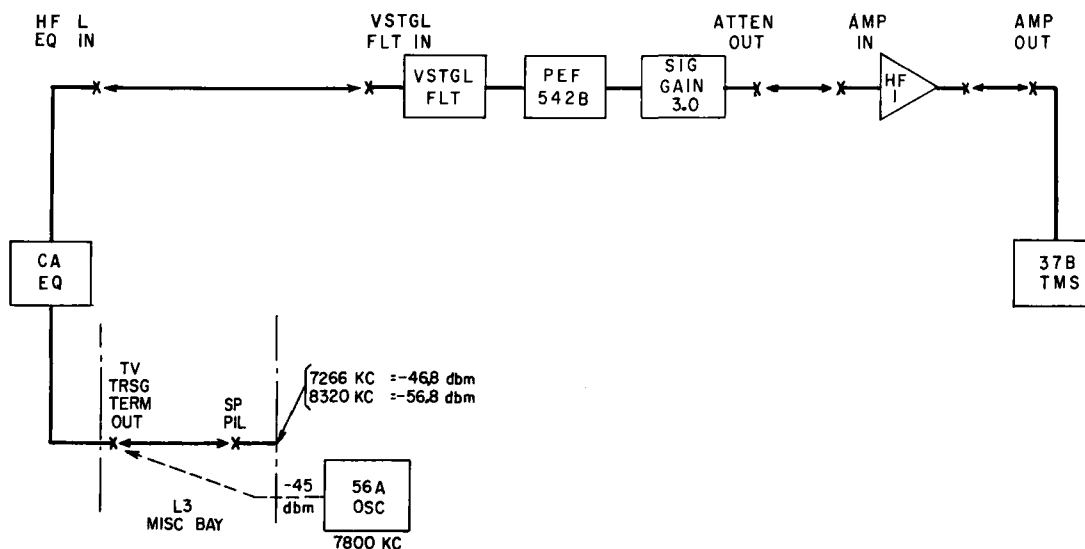

Fig. 11 — Test of Pilot Elimination Filter Loss in the T3 Terminal
- (1) Set up the test arrangement as shown in Fig. 11. The T3 terminal must be out of service.
- (2) Remove patch plugs between TRS OUT and HF L EQ IN (in jack field), and between MOD OUT and VSTGL FLT IN on CLC. Then patch from HF L EQ IN to VSTGL FLT IN on the CARR LEV CONT panel. This provides a circuit from the L3 miscellaneous bay through the PEF to HF AMP 1 OUT.
- (3) Remove the patch plug from EQ IN and AMP OUT jacks in the HF AMP 1 panel. Patch the TMS jack to AMP OUT.
- (4) Send a power of -45 dbm at 7800 kc into the TV TRSG TERM OUT jack, mounted in the L3 miscellaneous bay, associated with the terminal to be adjusted. Measure the